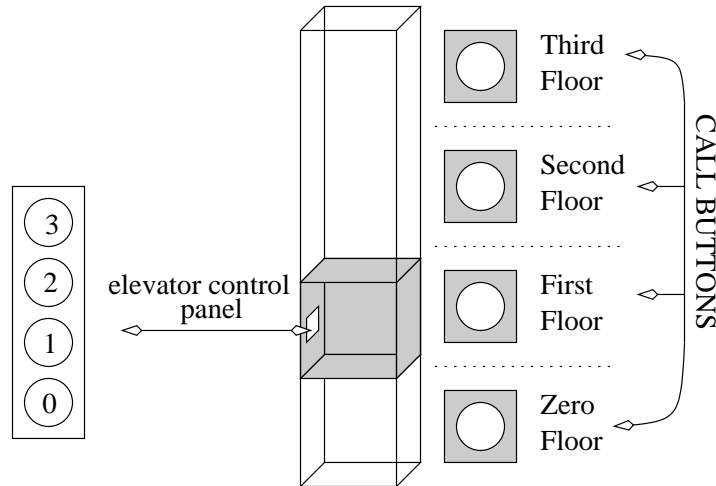

Figure 7.8: The layout of an elevator in a four story tall building.
15. **(36 pts.)** You are to construct a digital circuit to control the movement of an elevator in a four story building. The elevator will always wait on its current floor until a call button is pressed (see Figure 7.8). The elevator then moves to the floor that was called. The elevator then opens its doors and waits for an elevator control button to be pressed. If no elevator control button is pressed and a call to another floor is received then the elevator closes the doors and goes to the new floor. When a floor is selected on the elevator control panel then the door close and the elevator moves to the desired floor.